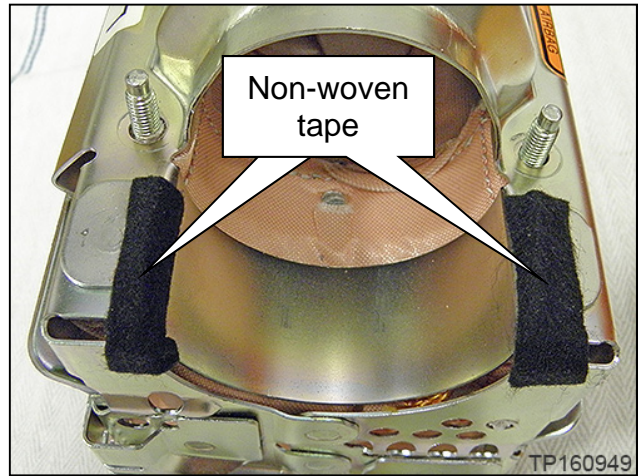

Figure 32
30. Apply non-woven tape over the sharp edges where the cuts were made, as shown in Figure 32.